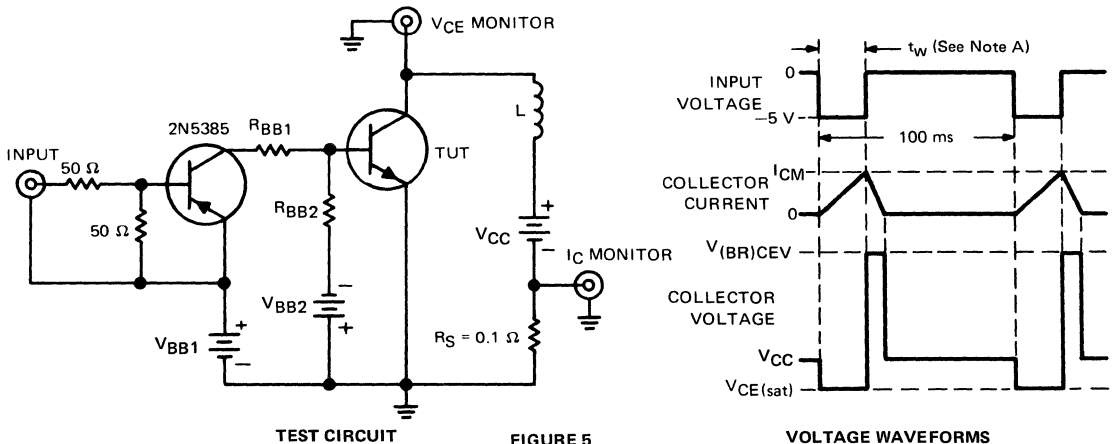

FIGURE 5
5. This rating is based on the capability of the transistor to operate safely in the circuit of Figure 5, condition 1. $L = 180 \mu\text{H}$, $R_{BB2} = 20 \Omega$, $V_{BB2} = 4$ V, $R_S = 0.1 \Omega$, $V_{CC} = 10$ V, Energy = $I_C^2 L/2$.